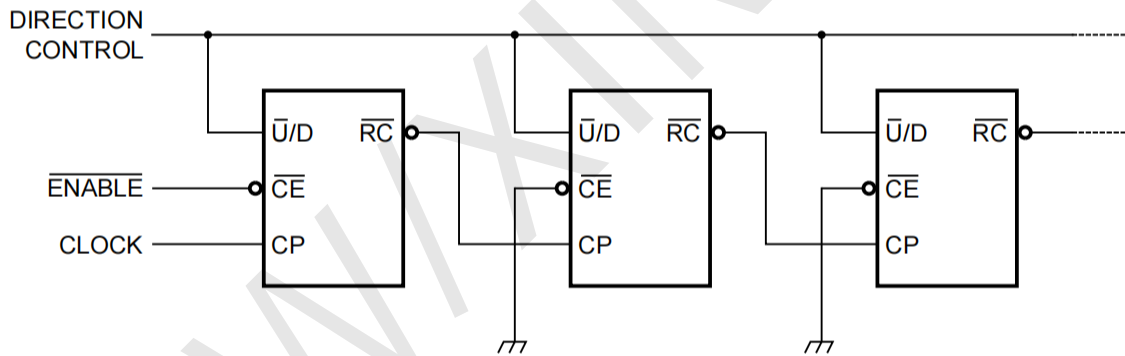
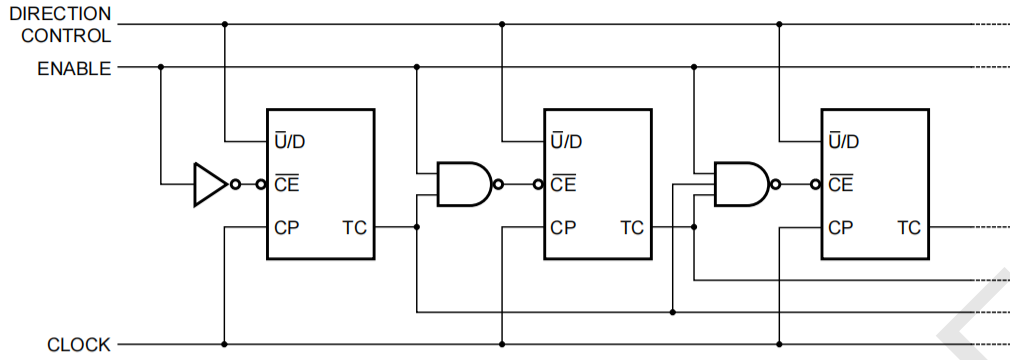

Figure 5. N-stage ripple counter using ripple clock
Figure 7. Synchronous n-stage counter with parallel gated carry/borrow
Counting is inhibited by a HIGH level on the count enable (\overline{CE}) input. When \overline{CE} is LOW internal state changes are initiated synchronously by the LOW-to-HIGH transition of the clock input. The up/down ($\overline{U/D}$) input signal determines the direction of counting as indicated in the function table. The \overline{CE} input may go LOW when the clock is in either state, however, the LOW-to-HIGH \overline{CE} transition must occur only when the clock is HIGH. Also, the $\overline{U/D}$ input should be changed only when either \overline{CE} or CP is HIGH. Overflow/underflow indications are provided by two types of outputs, the terminal count (TC) and ripple clock (\overline{RC}). The TC output is normally LOW and goes HIGH when a circuit reaches zero in the count-down mode or reaches "9" in the count-up-mode. The TC output will remain HIGH until a state change occurs, either by counting or presetting, or until $\overline{U/D}$ is changed. Do not use the TC output as a clock signal because it is subject to decoding spikes. The TC signal is used internally to enable the \overline{RC} output. When TC is HIGH and \overline{CE} is LOW, the \overline{RC} output follows the clock pulse (CP). This feature simplifies the design of multistage counters as shown in Figure 5 and 6.
In Figure 5, each \overline{RC} output is used as the clock input to the next higher stage. It is only necessary to inhibit the first stage to prevent counting in all stages, since a HIGH on \overline{CE} inhibits the \overline{RC} output pulse as indicated in the function table. The timing skew between state changes in the first and last stages is represented by the cumulative delay of the clock as it ripples through the preceding stages. This can be a disadvantage of this configuration in some applications.
In Figure 7, the configuration shown avoids ripple delays and their associated restrictions. Combining the TC signals from all the preceding stages forms the \overline{CE} input for a given stage. An enable must be included in each carry gate in order to inhibit counting. The TC output of a given stage is not affected by its own \overline{CE} signal therefore the simple inhibit scheme of Figure 5 and 6 does not apply.